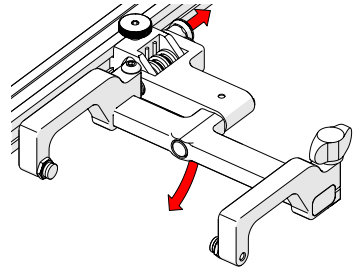

Fig. 117 - Lift and pull latch
3. Lift the probe holder slightly and pull the latch to release the probe holder's spring tension (*Fig. 117*).